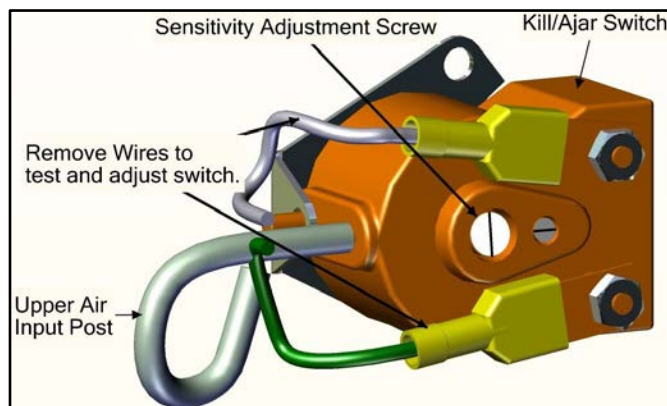

Figure 30
1. Remove the wires from the contact terminals and attach an ohmmeter across the two terminals. (See Figure 30.)
2. To adjust the switch, turn the small adjusting screw located on the face of the switch clockwise or counterclockwise until continuity is achieved. Then turn the screw two turns clockwise for final adjustment. Adjusting the screw clockwise decreases sensitivity, counterclockwise increases sensitivity. (See Figure 30.)